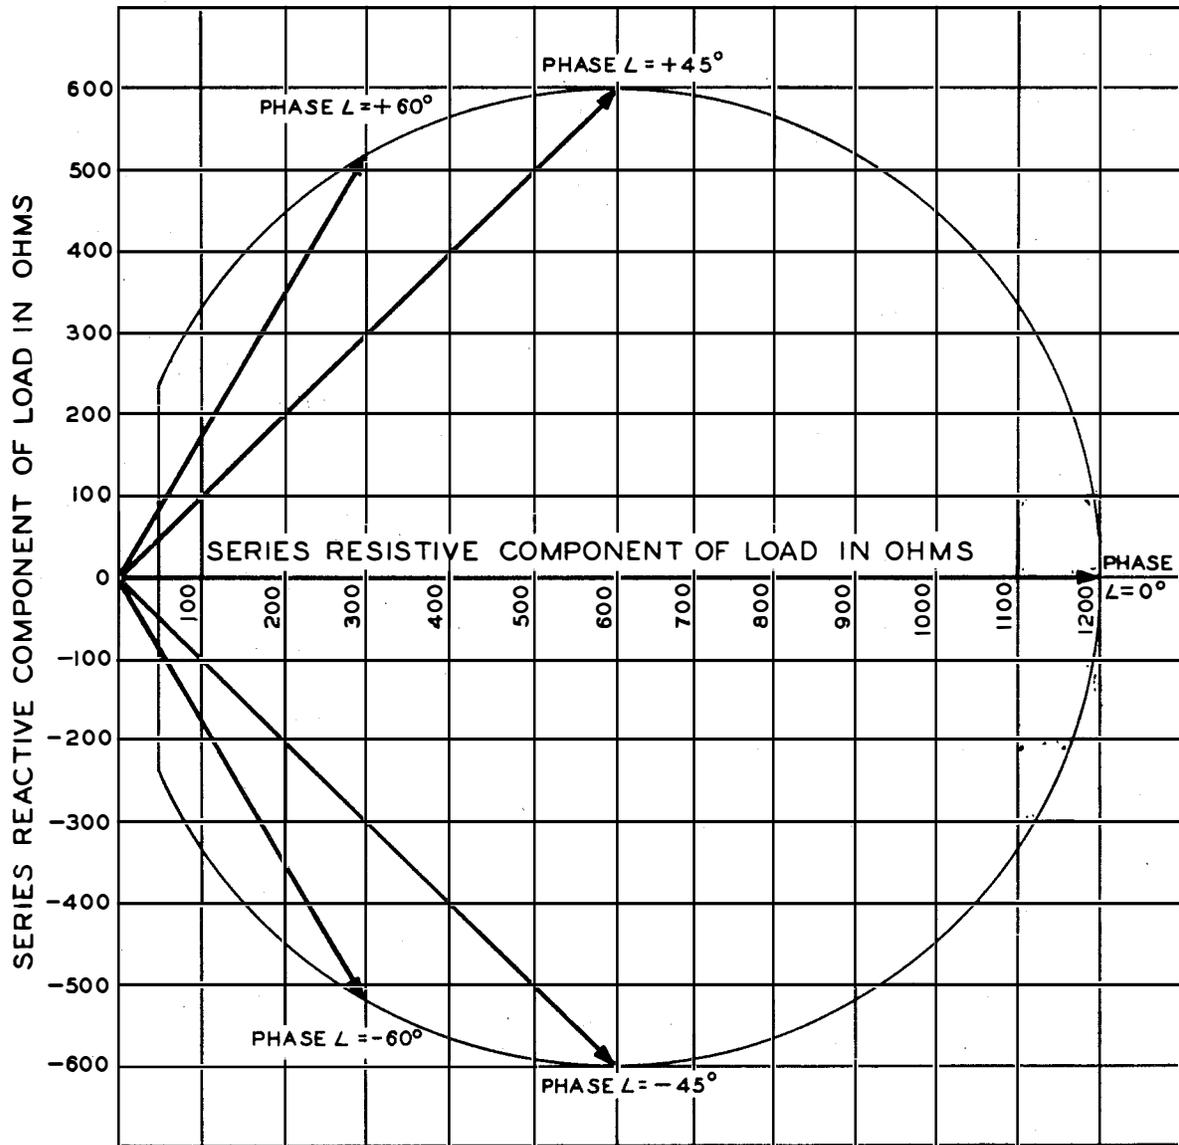

Fig. 27 Output Network Impedance Matching Range (Dwg. No. 500 4383 00C)
4.6.4. Power Amplifier and Antenna Tuning. The power amplifier plate tank and antenna loading circuits in this transmitter are combined in a pi network. The network is designed to couple the output of the power amplifier to an unbalanced antenna system. The circuit will couple the power amplifier circuit to antennas having impedances of from 50 to 1200 ohms with a phase angle of ± 0 degrees, 70 to 850 ohms with a phase angle of ± 45 degrees and 100 to 600 ohms with a phase angle of ± 60 degrees. (Refer to Fig. 27.)